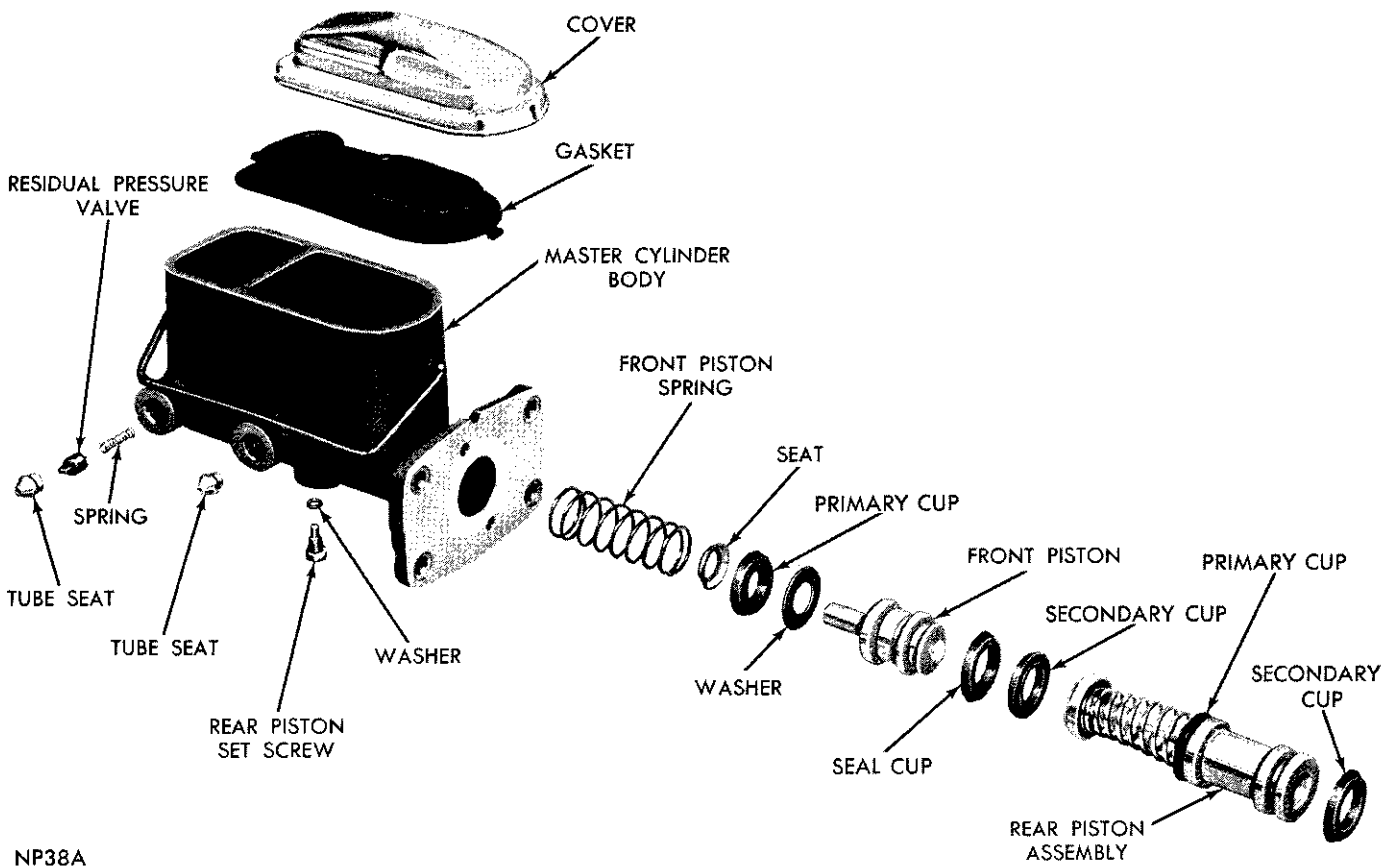

Fig. 4—Tandem Master Cylinder (Exploded View)
(1) Slide thin washer over stem of front piston, followed by primary cup. (Be sure lip is away from piston.) (Fig. 4).
(2) Carefully work seal piston cup over rear end of piston and into second land. (Be sure lip of cup is facing front of piston.) (Fig. 4).
(3) Carefully work secondary piston cup over piston and into rear land. The lip must be facing toward rear (Fig. 4).
(1) Carefully work secondary cup over rear end of rear piston with lip of cup toward front (Fig. 4).